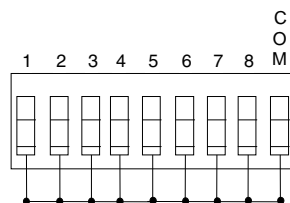

FIG. 22 9-pin dry closure connector set to default mode
3. Connect a jumper to the dry contact closures 1 through 8 and to ground as shown in FIG. 22.